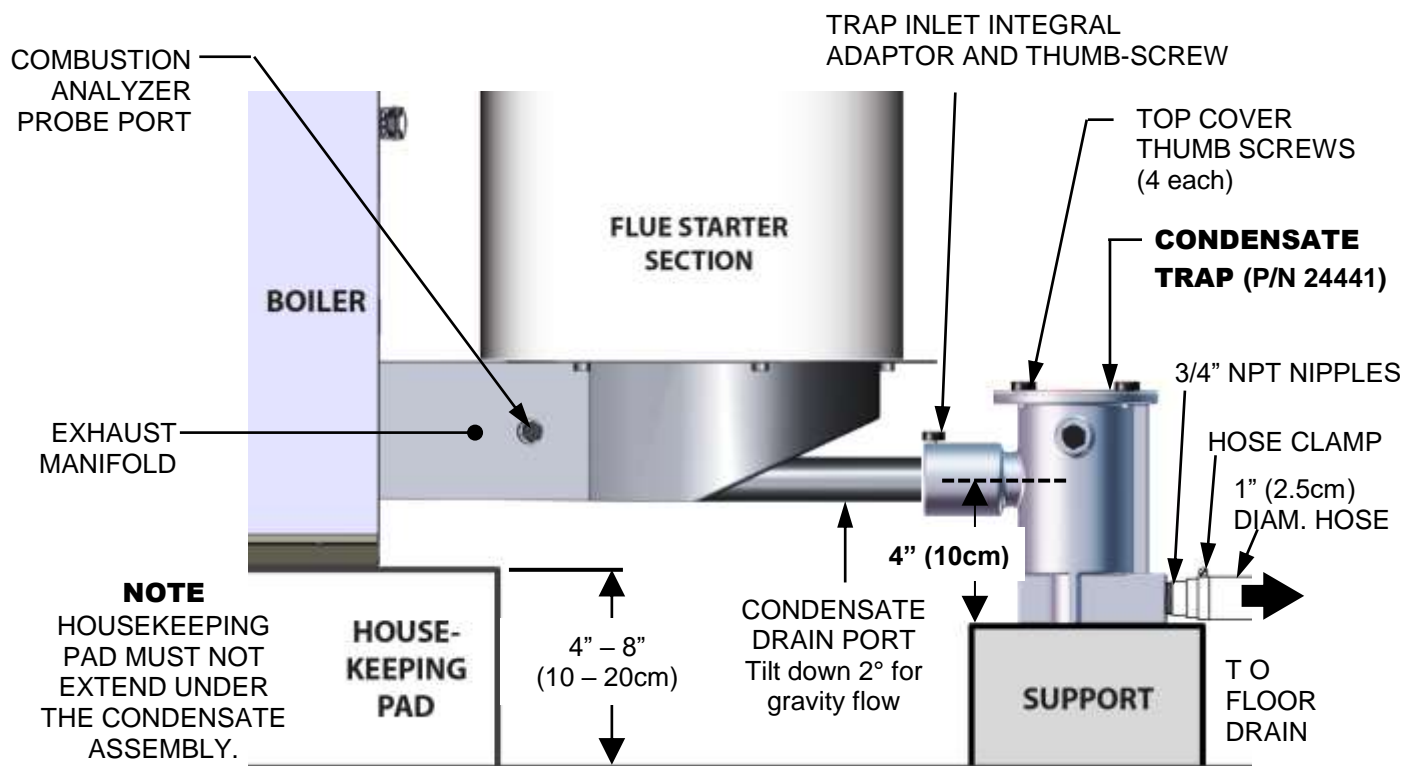

Figure 2-9: Sample Condensate Trap Installation
A sample condensate trap installation is shown in Figure 2-9. However, the actual installation details for the trap will vary depending on the available clearances, housekeeping pad height and dimensions and other prevailing conditions at the site. The following general guidelines must be observed to ensure proper condensate drainage:
- The condensate trap inlet (Figure 2-9) must be level with, or lower than the exhaust manifold condensate drain port.